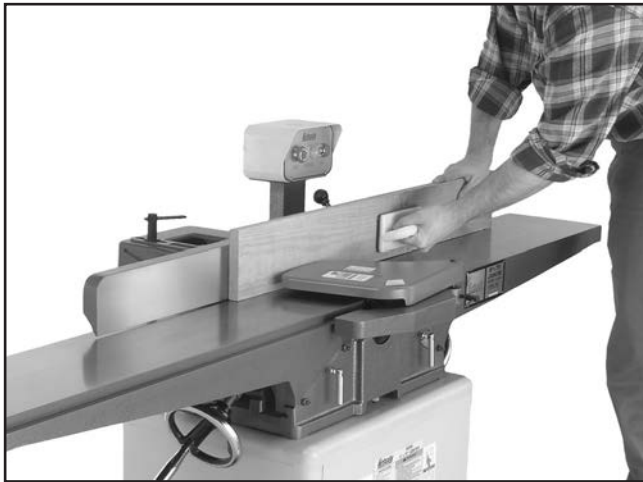

Figure 24. Typical edge jointing operation.
The purpose of edge jointing is to produce a finished, flat-edged surface (see **Figures 24 & 25**) that is suitable for joinery or finishing. It is also a necessary step when squaring rough or warped stock.
7. With a push block in your leading hand, press the workpiece against the table and fence with firm pressure. Use your trailing hand to guide the workpiece through the cut, and feed the workpiece over the cutterhead (See **Figure 24**).